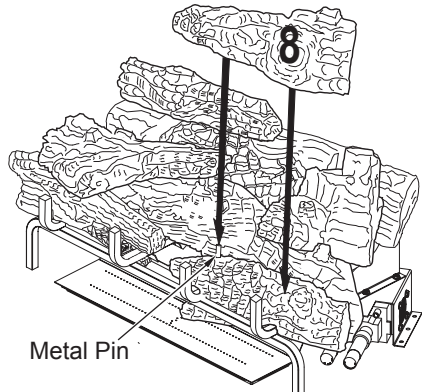

Figure 29 - Installing Log # 8
- Place the front right mid log (#8) on top of the front right log (#4) as shown in Figure 29. Match the round metal pin on the top of the front right log (#4) with the round hole on the bottom of the front right mid log (#8).